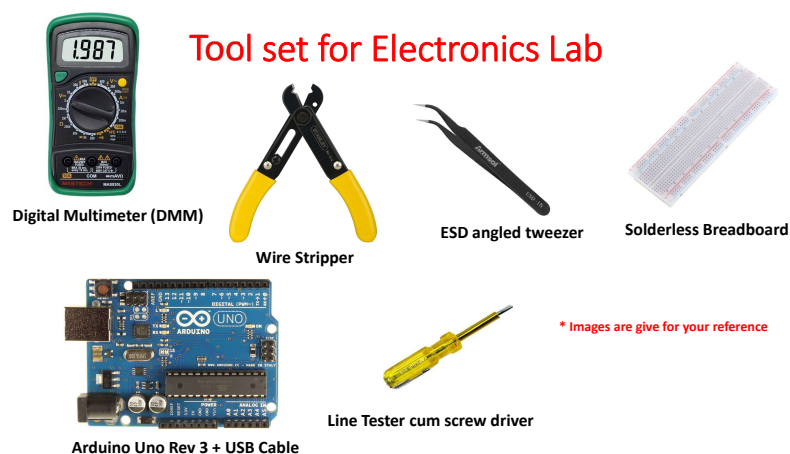

Figure 1: Electrical tools required
4. You will also need to **purchase some basic electrical tools** (shown in Fig. 1). Specifically, you will need the breadboard, a wire-stripper, tweezer and a line tester BEFORE your first electrical practical. Digital multimeter and Arduino will be required later (announcement will be made via Moodle).